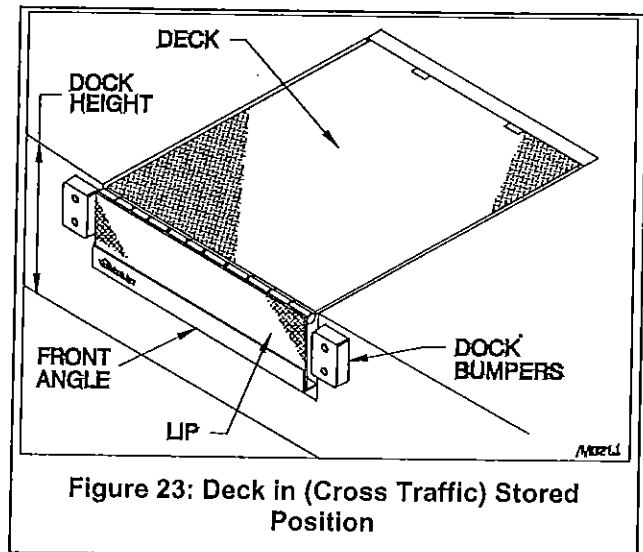

Figure 23: Deck in (Cross Traffic) Stored Position
**CONDITION #1:** The lip does not retract enough for the dock leveler to park itself with the lip behind the front angle (Figure 23 page 18) at the stored position.
1. Load or unload End Loads with the deck and lip in the stored position as shown in Figure 23 Page 18 (See "End Loading/Unloading and "Below Level End Loading" on page 20).
4. Proceed to load/unload the vehicle. When completed, return the dock to its stored position by depressing the **RAISE** button. When the lip is fully retracted and clear of the truck, release the button and the dock will lower into the stored position. Visually inspect the dock leveler to ensure that it is properly stored with the lip inside the front angle. (See Figure 23, page 18)